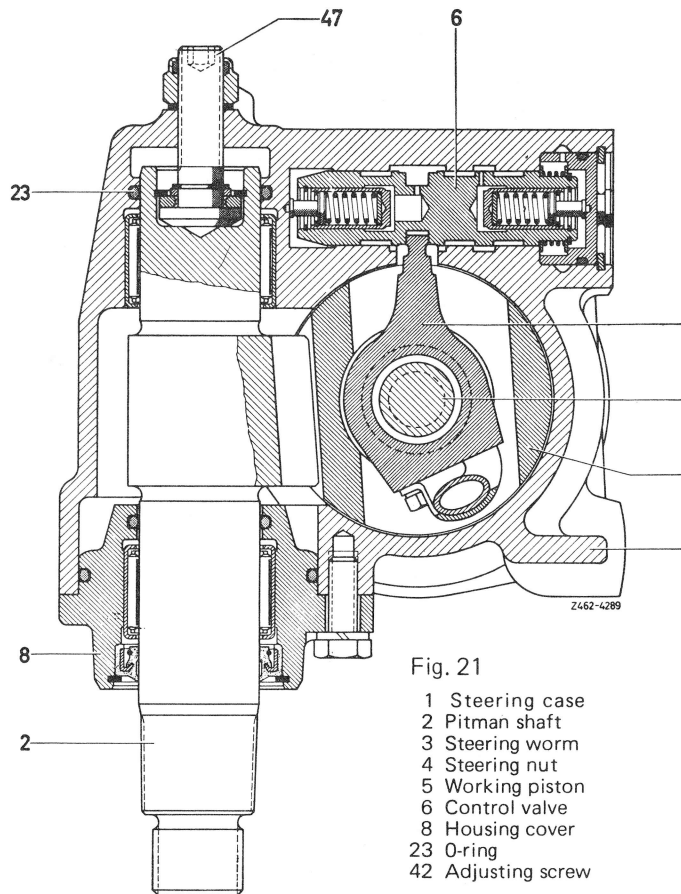

Fig. 21
21 Replace O-ring (23) in steering case (1) (Fig. 21).
22 On version 1, insert control valve (6) into steering case (1) (Fig. 21 and 22).